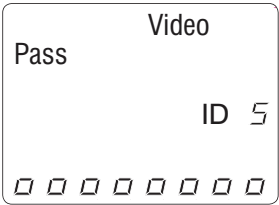

Figure 7. Loop Testing in Video Mode
4. Press the VIDEO MODE button to start continuous testing. The following updates appear in the LCD display screen (see Figure 7):